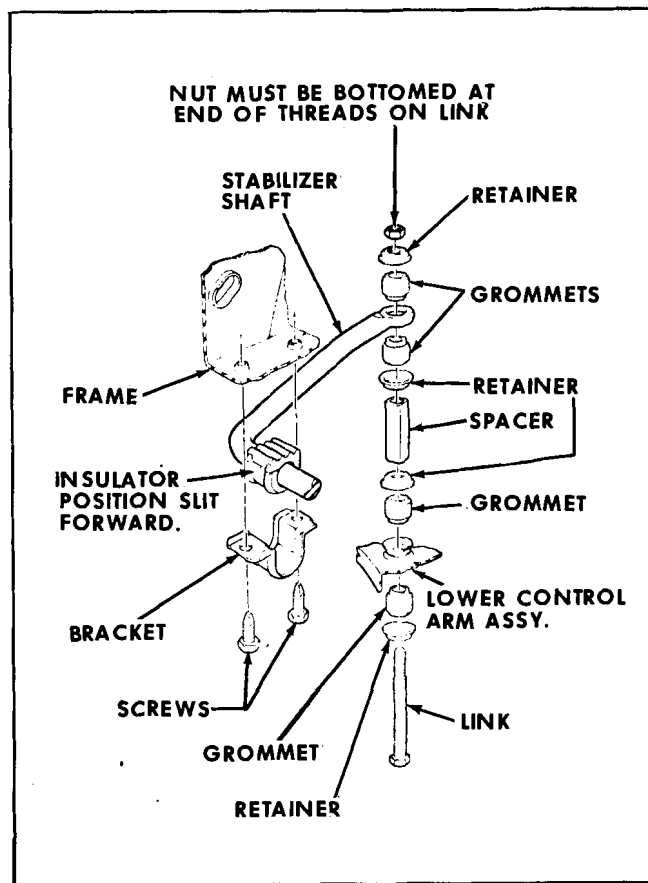

Fig. 3-20 Stabilizer Link Installation
2. Disconnect both links from stabilizer shaft by removing each link nut and rotating shaft up from lower control arm (Fig. 3-20).
3. Install link assembly as shown in Fig. 3-20. Tighten nut to 15 lb. ft. torque on all models except Formula and Trans Am or to 23 lb. ft. torque on Formula and Trans Am.
3. Remove stabilizer link nut, link, spacer, grommets and retainers (Fig. 3-20).